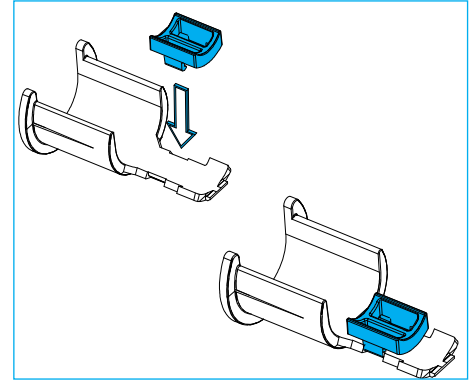

Figure 22.
9.2.5.3 For cable sizes less than 0.71", break off the tab corresponding to the cable size and snap into spacer as shown above. For cables larger than 0.71" the tabs are not used. (Figure 22)